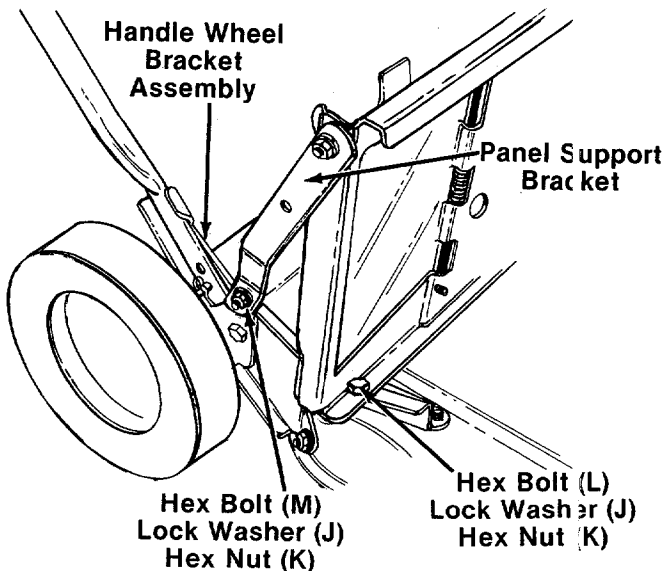

FIGURE 14.
3. Place the panel support bracket in position on the right side of the unit. The bend in the bracket goes toward the outside of the unit, and the holes are positioned as shown in figure 14. Secure bottom of bracket to the handle wheel bracket assembly with one hex bolt (M), lock washer (J) and hex nut (K), finger tight only. See figure 14.
4. Secure top hole of panel support bracket to catcher panel using round head bolt (N) (head of bolt must be to the inside of the catcher panel), lock washer (J) and hex nut (K). See figure 14.